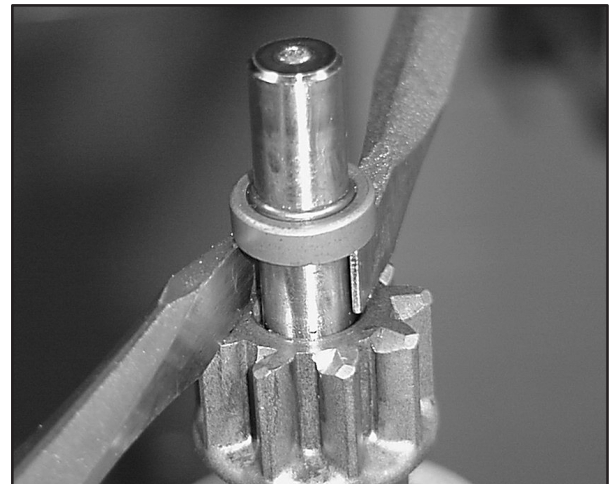

Fig. 39
4. Pry up on retainer until C-ring snaps into groove in retainer, Fig. 39.